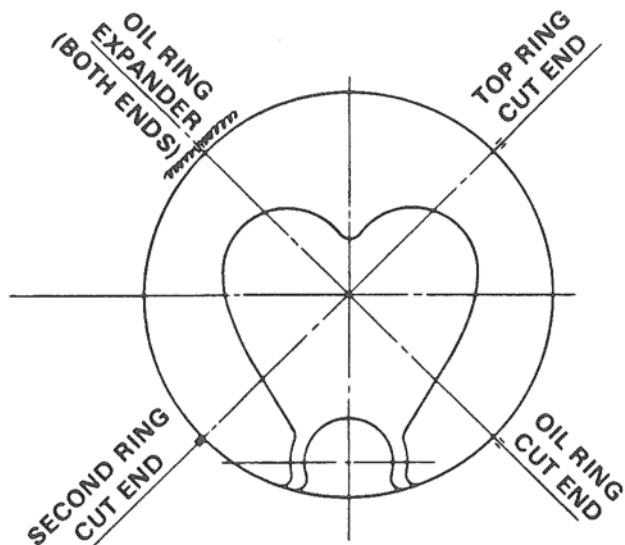

Figure 61. Piston Ring Positions.
E. Position rings with openings 90° from one another. Figure 61.